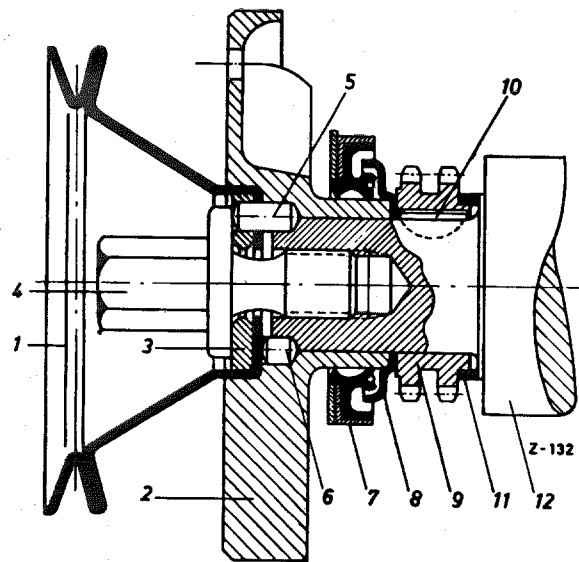

Fig. 01—4/38
2. Remove the shoulder screw (4) which fixes the pulley and the counterweight to the crankshaft, and take off the washer (3) and the pulley (1), then pull the counterweight (2) using Puller 000 589 17 33 off the crankshaft (Fig. 01—4/38).
**Note:** In later versions the washer (3) was welded to the pulley (1).